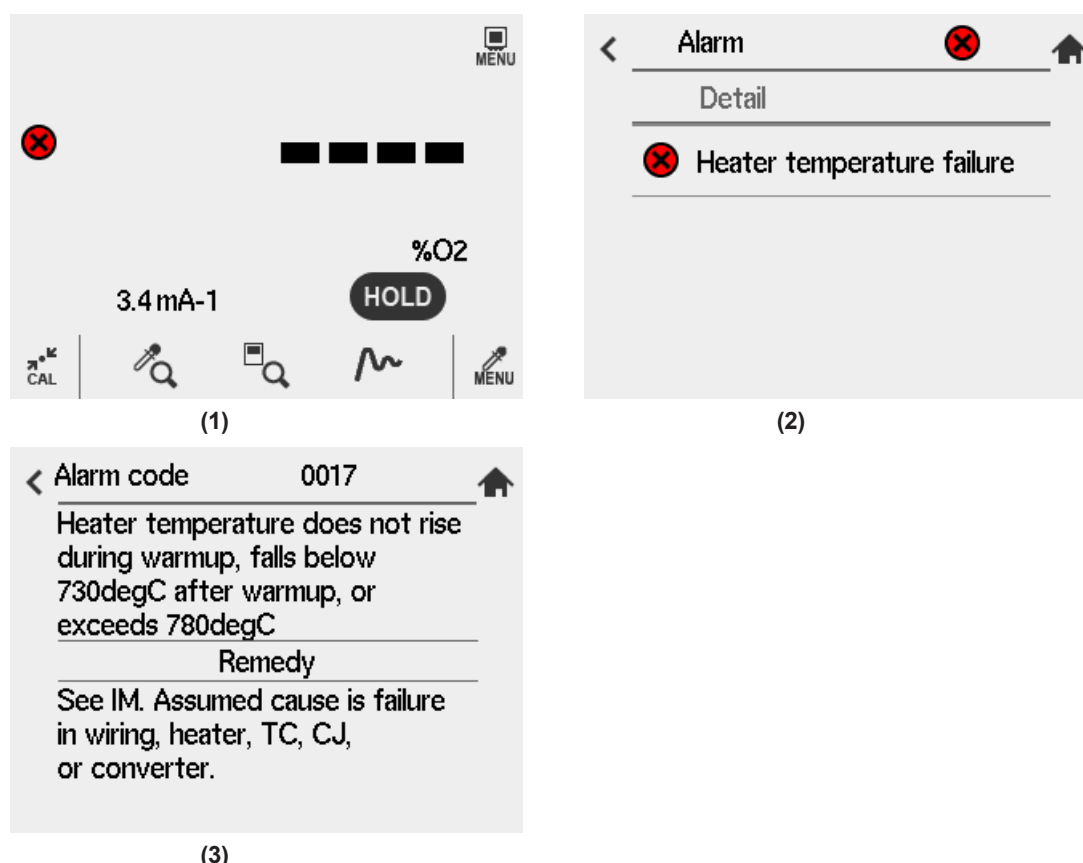

Figure 12.1 Fault description
- (1) Stops the supply of power to the heater in the detector to insure system safety.
- (2) Fault indication is displayed by blinking the icon to notify of a Fault generation (Figure 12.1).
- (3) When Fault is set to output in “Selection of contact output”, Fault is output to contact. (refer to Section “8.5 Contact Output Setup”.)
- (4) The analog output becomes the status which is set in “Output hold setting”. (refer to Section “8.2 Output Hold Setting”.)
When the display shown in Figure 12.1 (1) appears, pressing the Fault indication brings up a description of the Fault (Figure 12.1 (2))